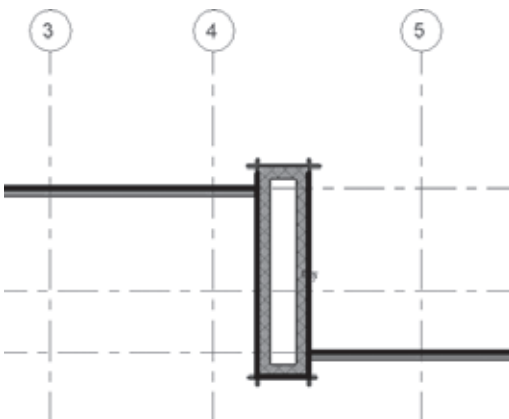

Figure 4.54
4. The final boundary lines should look like Figure 4.54.